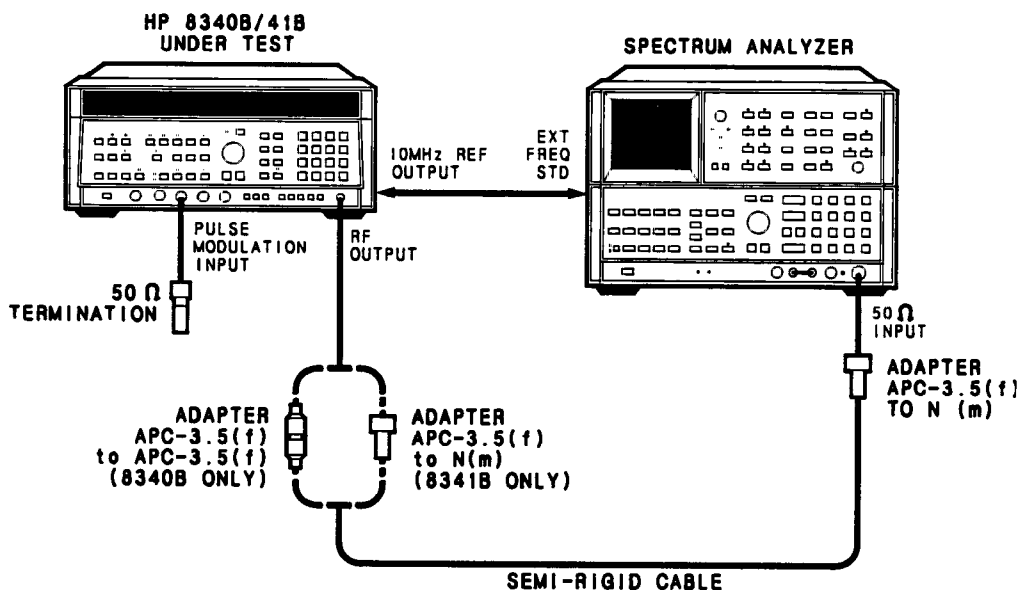

Figure 4-11. Pulse Modulation ON/OFF Ratio Test Setup
1. Connect equipment as shown in Figure 4-11. Allow a one hour warm up time.
4. Press the DUT's [PULSE] key (ON). The spectrum analyzer marker delta amplitude level should be greater than 80 dB.